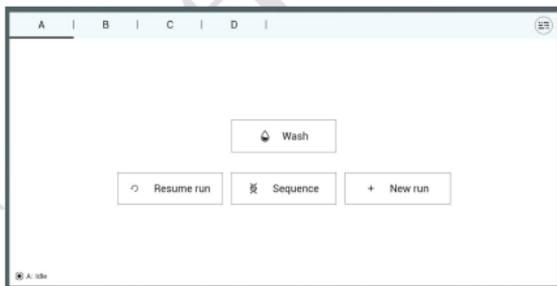

Figure 8-2: DNBSEQ-T7 Selection Interface
- Select A/B/C/D respectively according to sequencing demand. Click on “Sequencing” and select “New run” (see Figure 8-2).